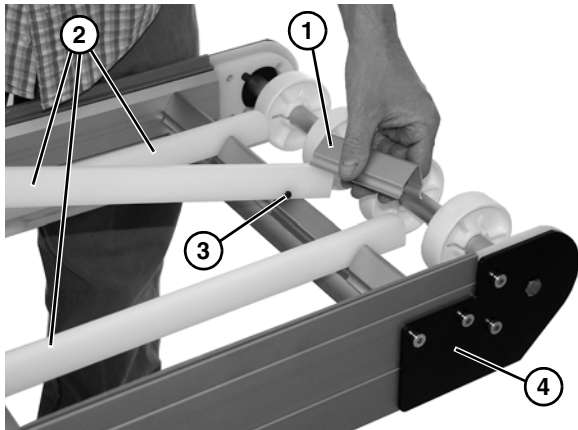

Figure 31
2. Remove inner spacer (**Figure 31, item 1**) from top of frame assembly.
The upper wearstrips (**Figure 31, item 2**) have a screw (**Figure 31, item 3**) on end of wearstrip that is retained by the inner spacers (**Figure 31, item 1**).
3. Remove upper wear strips (**Figure 31, item 2**).